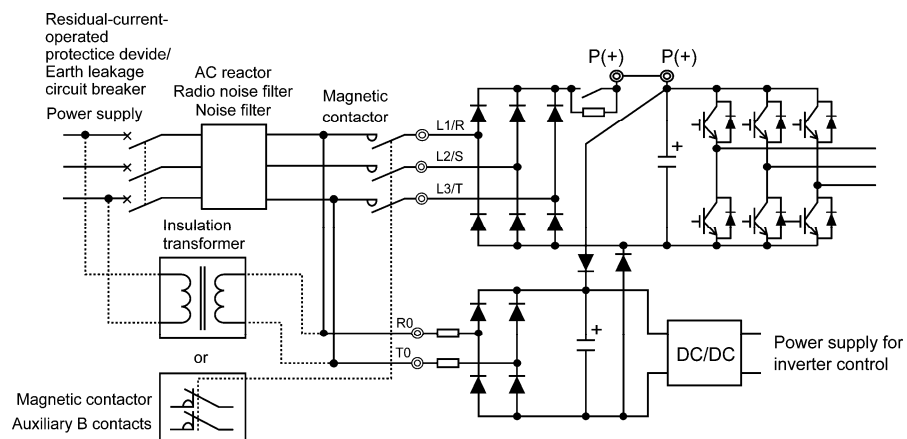

Figure 5.4 Connection Example of residual-current-operated protective device (RCD)/Earth Leakage Circuit Breaker (ELCB)
- Note** When introducing a residual-current-operated protective device (RCD)/earth leakage circuit breaker (ELCB), connect its output (secondary) side to terminals R0 and T0. Connecting its input (primary) side to those terminals causes the RCD/ELCB to malfunction since the input power voltage to the inverter is three-phase but the one to terminals R0 and T0 is single-phase. To avoid such problems, be sure to insert an insulation transformer or auxiliary B contacts of a magnetic contactor in the location shown in Figure 5.4.